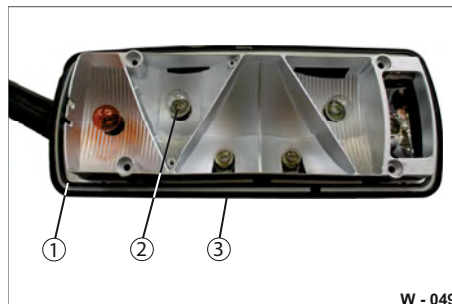

Fig. 57 Tail light open
- ▶ Set the outer light lens close to the housing (Fig. 57/3).
- ▶ Ensure that the seal is correctly seated (Fig. 57/1). Replace damaged/ripped seals.
- ▶ Screw on the fixing screws (Fig. 57/3). Tighten the screw connections with max. 1.5 Nm tightening torque. Cracked light lenses must be replaced.